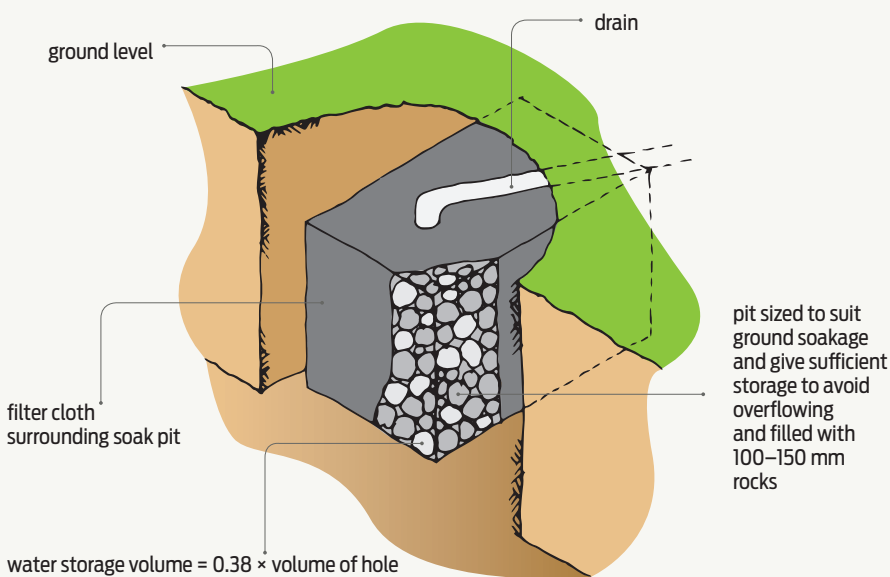

Figure 1 Rock soak pit.
- a hole filled with rocks (see Figure 1)